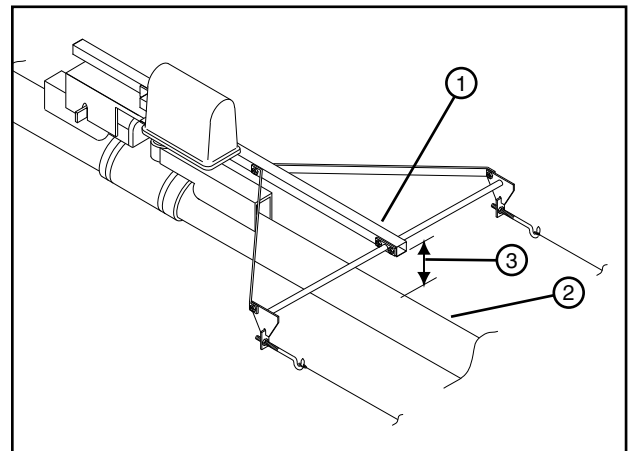

Figure 87-2 1. Alignment Tube
2. Measure the distance from the end of the alignment tube down to the pipe. This is the pre-weight measurement. See Figure 87-2.